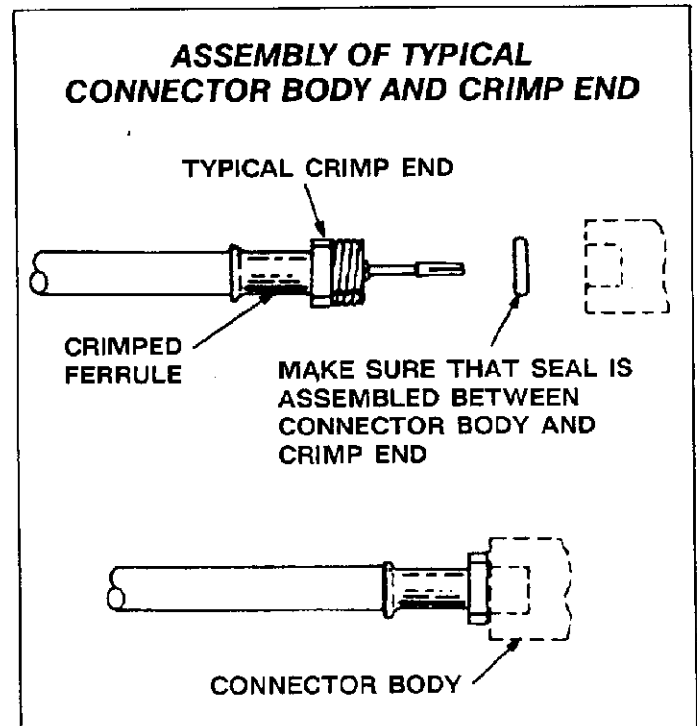

Fig. 11
1. Assemble crimp end and connector body as shown in Figure 11.